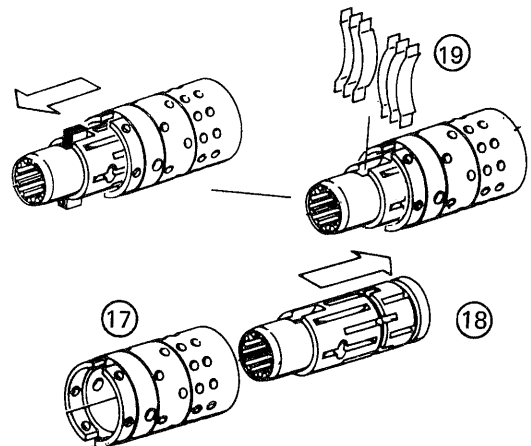

Fig. 135
- (18) Drive spool (18) part way from sleeve (17) and remove six centering springs (19) carefully by hand (Fig. 135)
- (19) Drive off spool (18) in the opposite direction (Fig. 135)